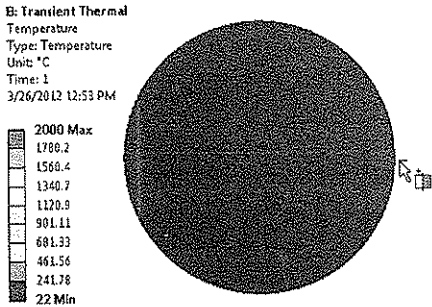

Figure 11-40 The Top view of the model
- Choose **View > Top** from this shortcut menu; the view is changed, as shown in Figure 11-40.